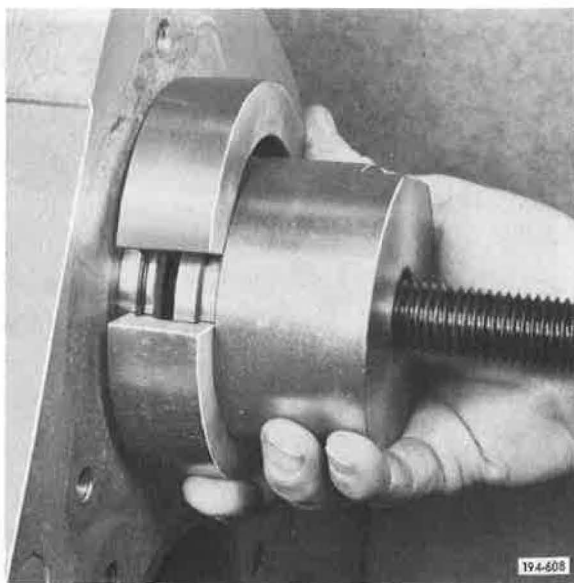

Figure 75. Installing Puller and Second Clamping Half
16. Install puller section of tool S593C and second clamping half. See Figure 75.